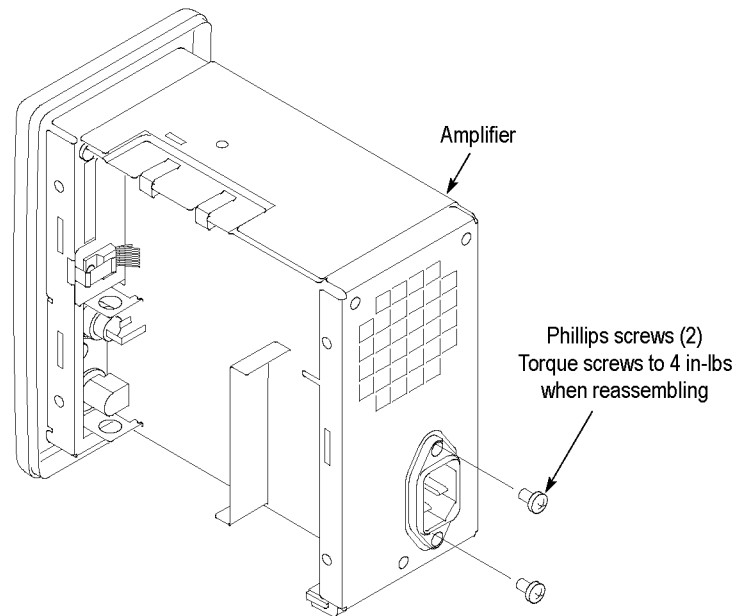

Figure 27: Removing the AC power connector
1. Remove the 2 Phillips screws that attach the AC power connector to the rear panel as shown. (See Figure 27.)